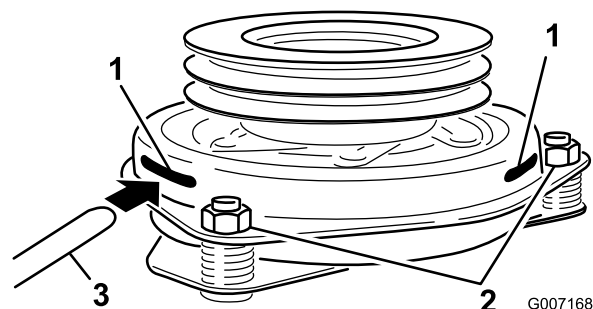

Figure 57
9. Insert a 0.015–0.021 inch (0.381–0.533 mm) feeler gauge through one inspection slot in the side of the assembly. Make sure it is between the armature and the rotor friction surfaces (Figure 57).
10. Tighten the lock nuts until there is slight binding on the feeler gauge but it can be moved easily within the air gap (Figure 57).